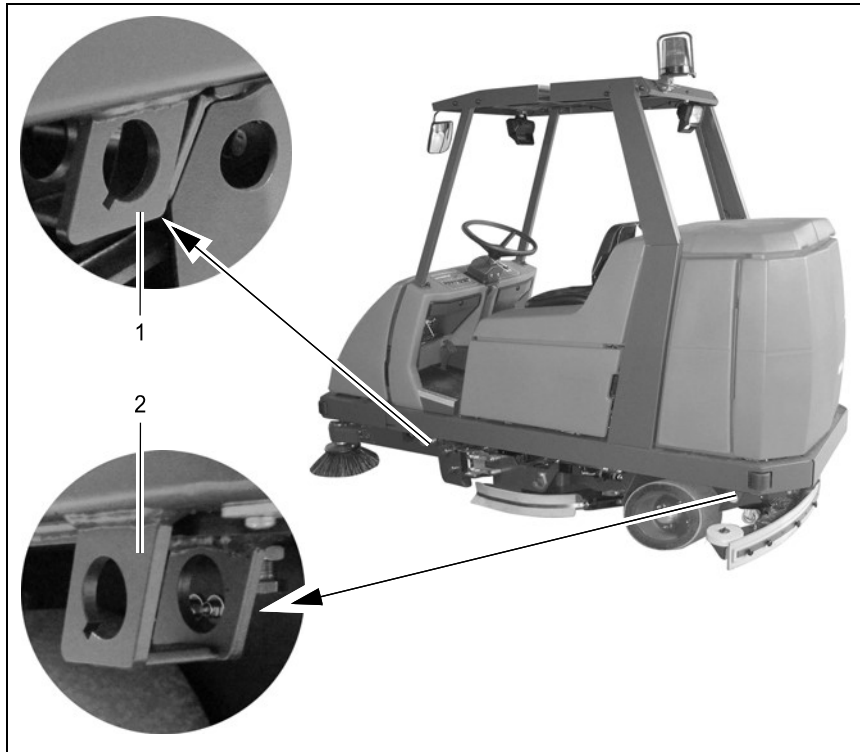

Fig. 41
- The vehicle is provided with attachment points (lashing eyes) on the left and right-hand side to do this: at the rear of the frame and on the sides at the height of the entry area (Fig. 41/1+2).